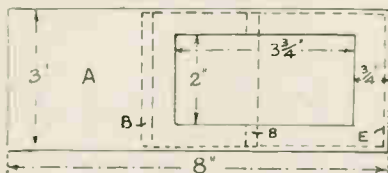

Fig. 1—Outline of floor and opening
It will be observed from Fig. 1 that the mill itself is glued and nailed or screwed to the top of the floor in the position shown by the cross dotted lines (B). There is an open space left